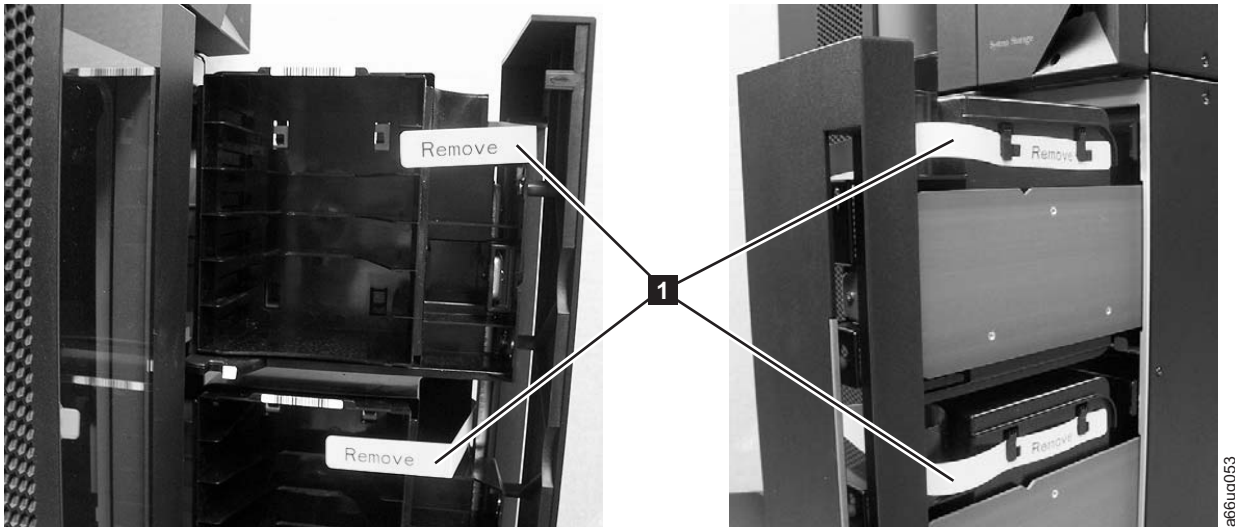

Figure 3-2. Yellow ribbon-like packing pieces
5. Remove the yellow ribbon-like packing pieces (**1** in Figure 3-2 on page 3-4) from around the I/O Station magazines.